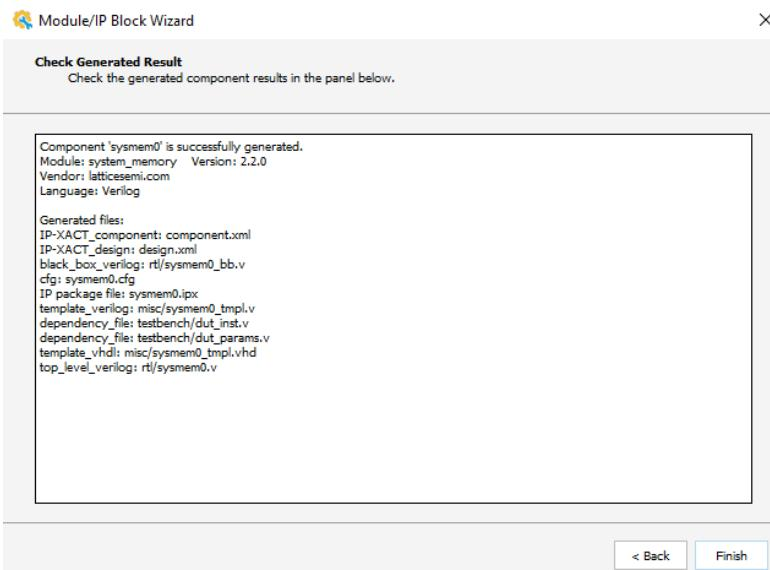

Figure 8.46. Click Finish
9. Wait until the processing is complete and click **Finish** as shown in Figure 8.46.